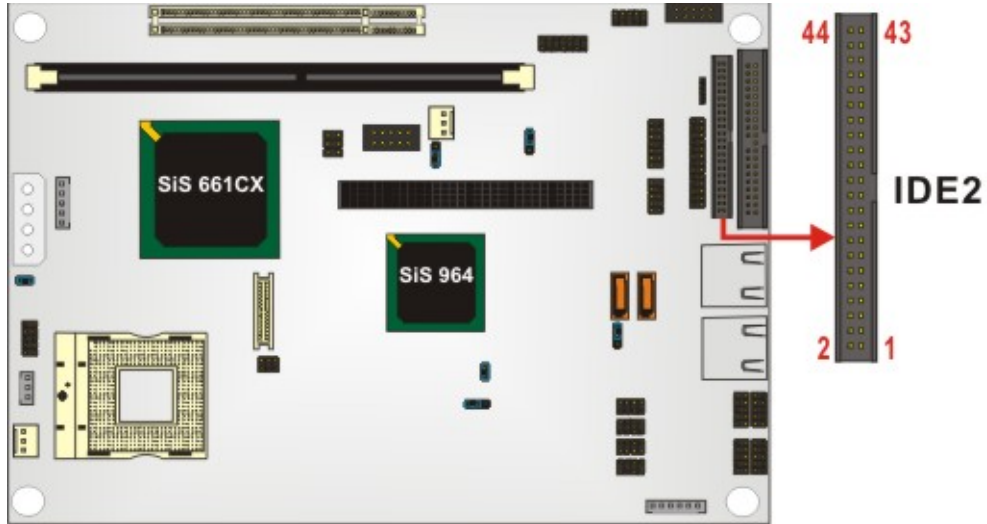

Figure 3-9: Secondary IDE Device Connector Location
- CN Location:** See Figure 3-9